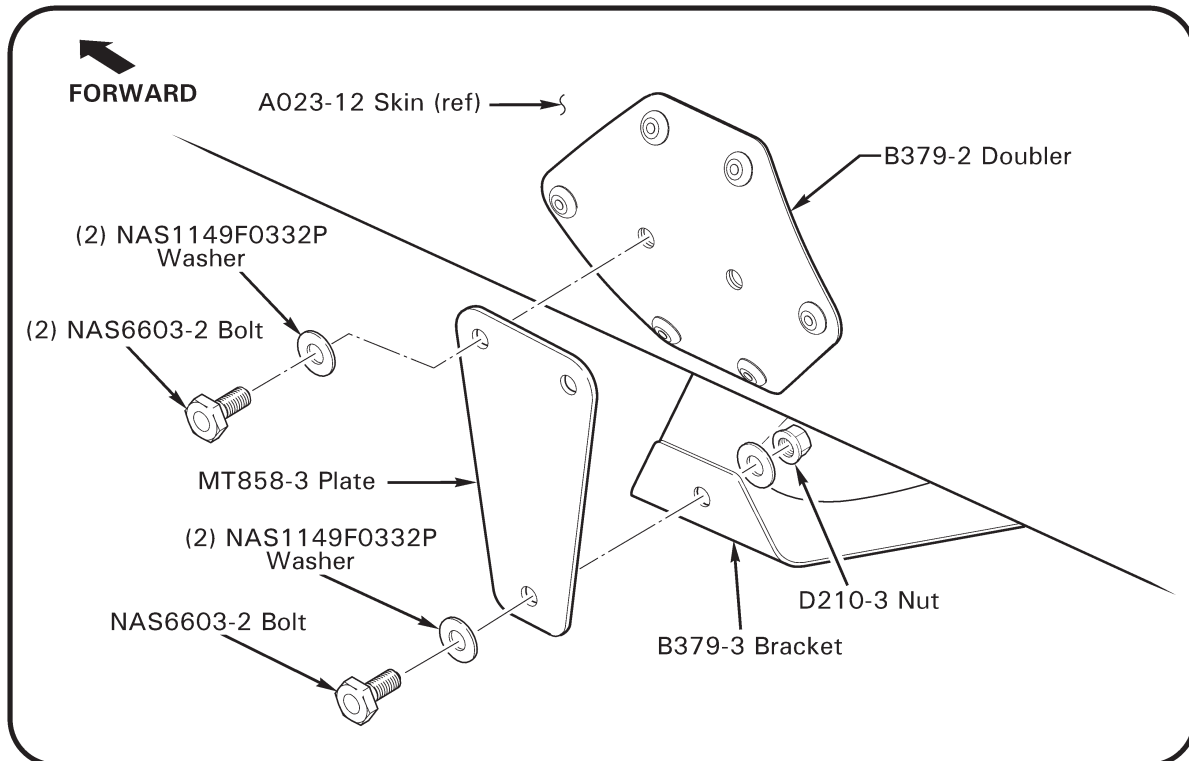
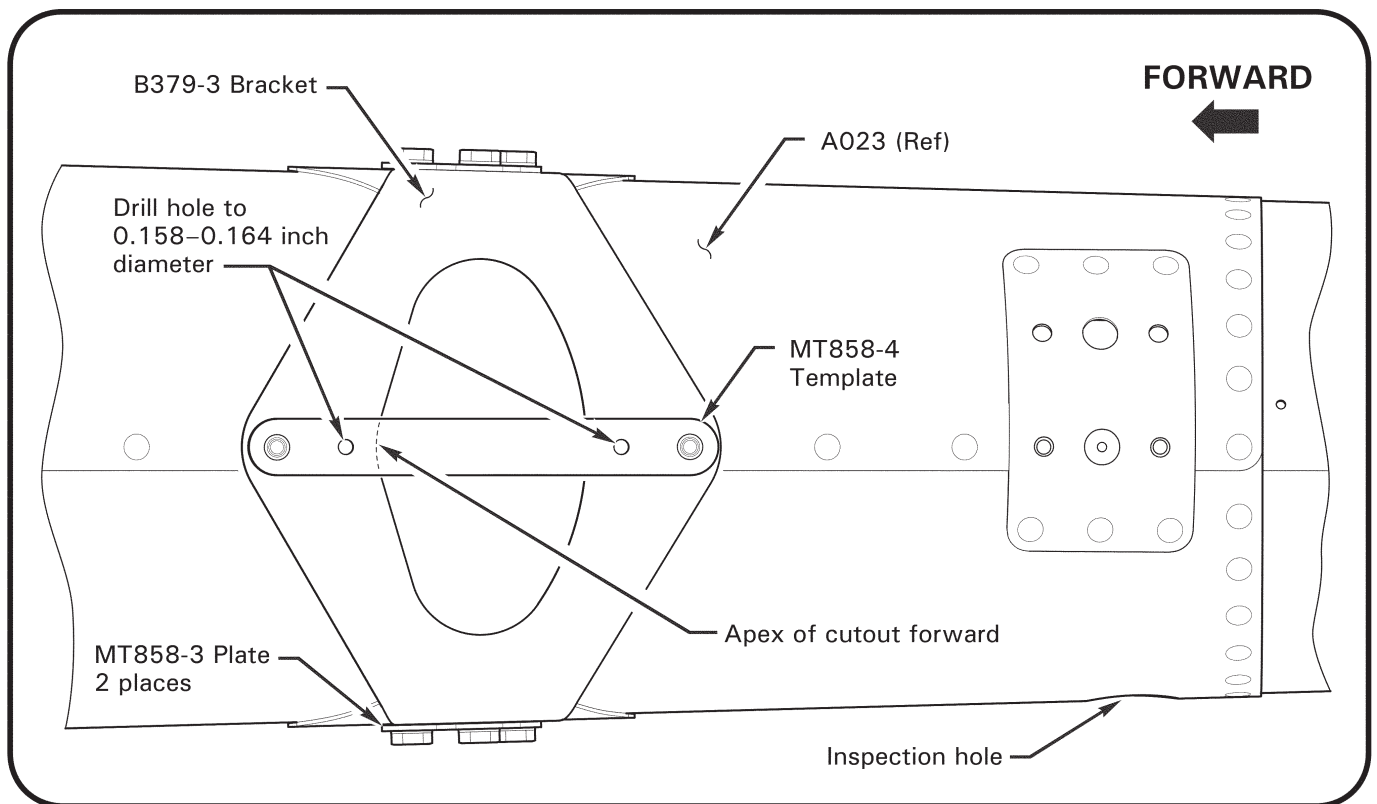

FIGURE 7 MT858-3 plate & B379-3 bracket installation
FIGURE 8 Drilling of B379-3 bracket
11. Refer to Figures 7 & 8. Using hardware provided in kit, install one MT858-3 plate to each side of tailcone and attach B379-3 bracket (apex forward as shown in Figure 8) to plates.